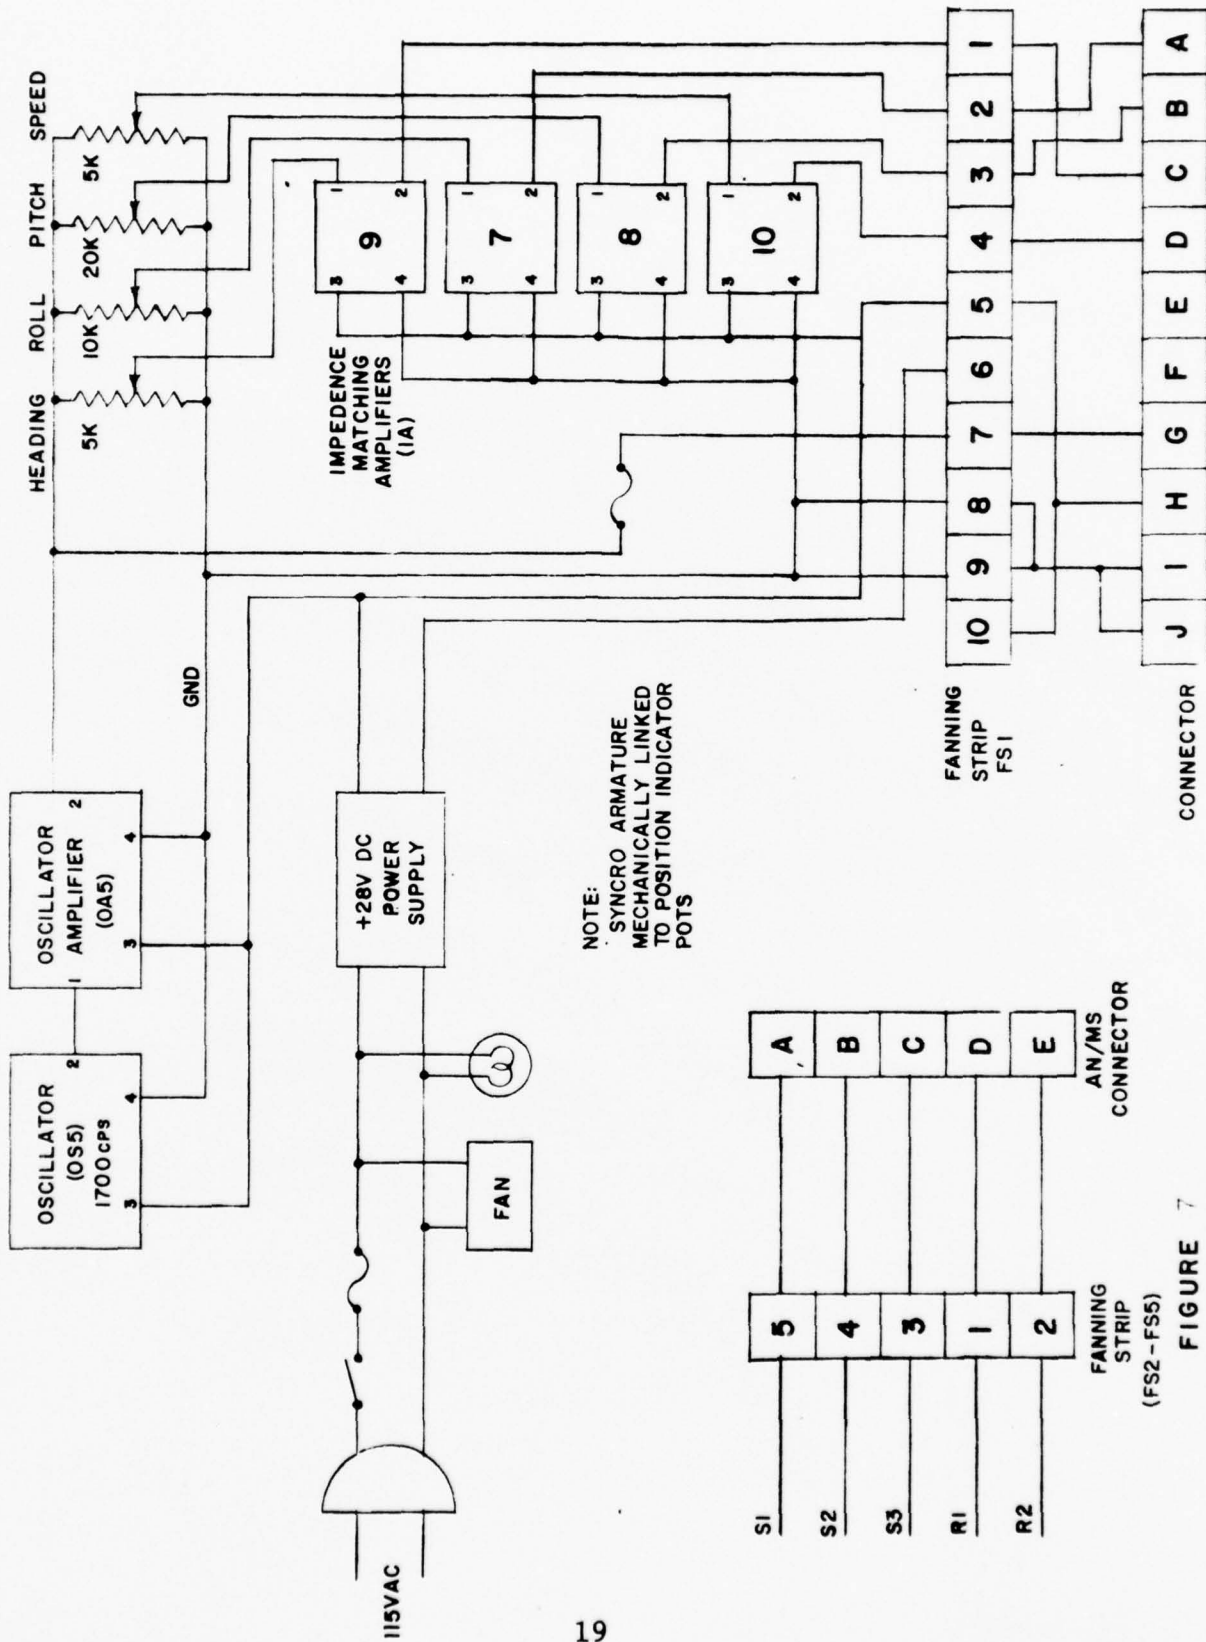

FIGURE 7
4. Ship Motion Package (figure 7).